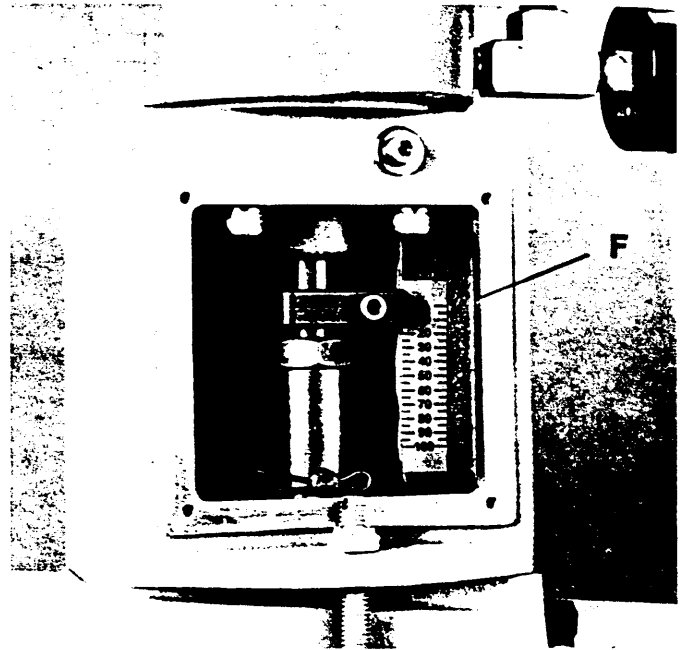

FIGURE 4
- B. Figure 4. Apply a 3 psi instrument air signal to the unit. Actuator should have stem retracted to zero stroke length setting on scale F. Every Auto-Pneumatic PULSA pump is pre-adjusted for zero adjustment based on the signal range specified. If the pointer does not register zero on Scale F, follow Steps 1 through 4.